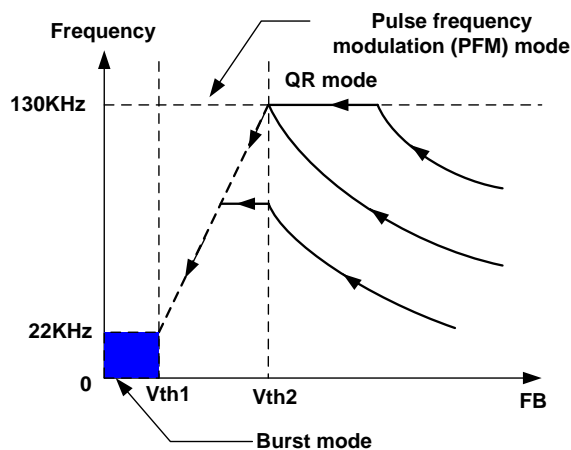

Figure 1
■ Under normal operating conditions ($FB > V_{th2}$, Figure 1), the system operates in QR mode. The frequency varies depending on the line voltage and the load conditions. Therefore, the system may actually work in DCM when 130KHz frequency clamping is reached. System design should be optimized such that the operation frequency is within the range specified at full loading conditions and in universal AC line input range.
■ At light load condition ($V_{th1} < V_{FB} < V_{th2}$, Figure 1), the system operates in PFM (pulse frequency modulation) mode for high power conversion efficiency. In PFM mode, the “ON” time in a switching cycle is fixed and the system modulates the frequency according to the load conditions. Generally, in flyback converter, the decreasing of loading results in voltage level decreasing at FB